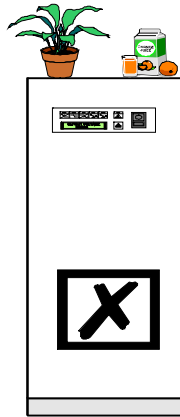

Figure 9
5.Do not leave objects on the top of the Inverter wind/solar (5in1). (Fig.9)